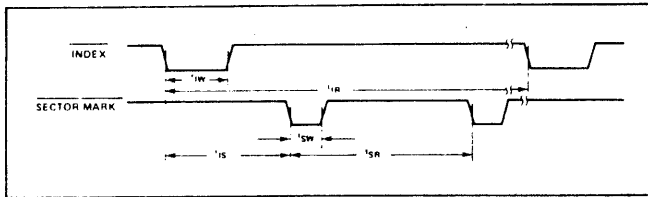

Figure 10.5-4 INDEX and SECTOR MARK Timing
4. INDEX AND SECTOR MARK Timing INDEX and SECTOR MARK timing is shown in Figure 10.5-4 The AC characteristics are listed in Table 10.5-4.